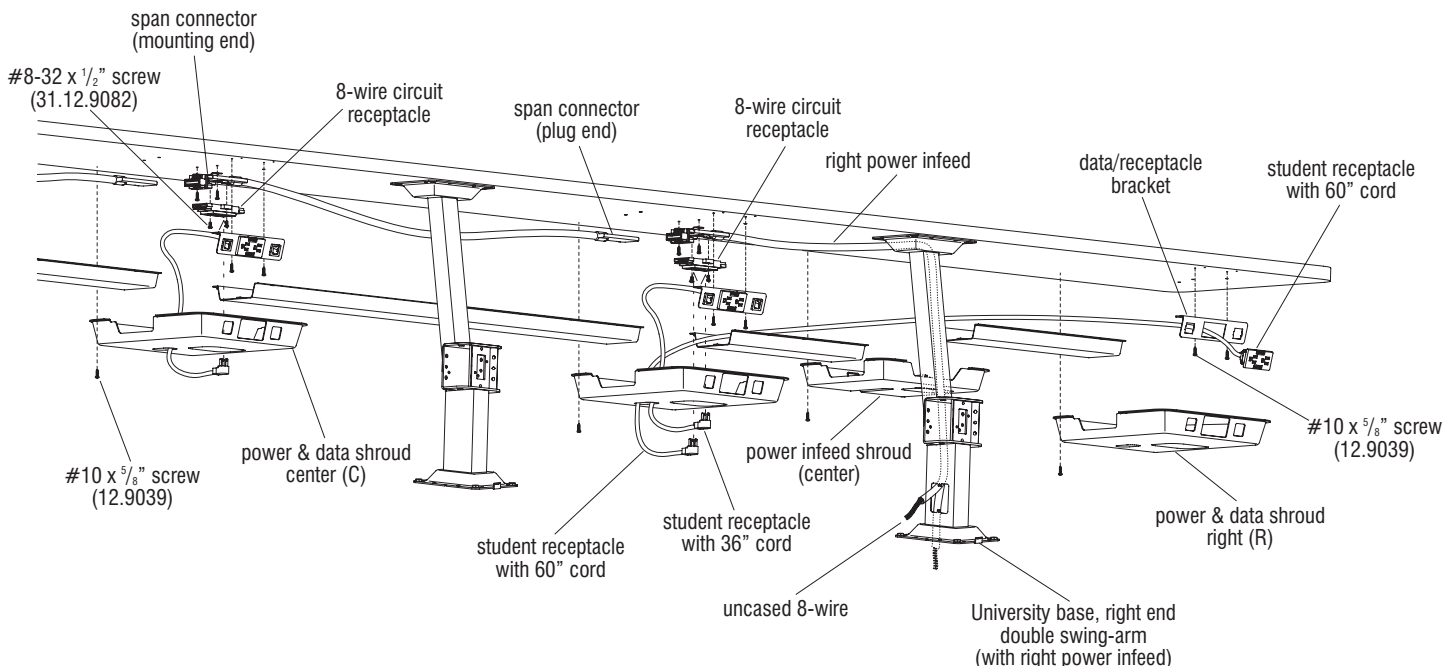

Figure 13 - Right Power Infeed with Double Swing-arm Ends (Power Infeed Detail)
34. At the underside of the University table top, locate the pre-drilled mounting holes, about midway between the two right-most University bases, near the power-infeed location (Figure 13 & Detail A). As illustrated, secure the mounting end of the right power infeed to the underside of the table top with two #10 x 5/8" screws at the appropriate pre-drilled holes. Torque screws to 25 in/lbs to secure (Figure 13, Details A & B).
space-planning layout, continue down the line installing all remaining span connector mounting ends to the table top between bases and clicking the plug ends into the appropriate mounting ends (Figures 13 & 14, Detail B).
36. Follow correct circuit designations and install 8-wire circuit receptacles to the mounting end of the power infeed and all span connectors using two #8-32 x 1/2" screws provided and torque to 20 in/lbs (Figures 13 & 14, Detail B).
38. Locate the mounting holes for the data/receptacle bracket (Details A & B). Install the data/receptacle bracket to the underside of the table top with two #10 x 5/8" screws torqued to 25 in/lbs (Figures 13 & 14).
39. Snap the appropriate style data jack adapters into the data receptacle bracket as illustrated. (See "Data Adapter Detail" on page 13 for identification of data adapter plates.) Per the space-planning layout, run data lines (customer supplied) up the appropriate base and then horizontally along the front, smaller partition of the power/data trough. Properly routed, the data lines will be separated from the line voltage flexible conduit by a divider in the power/data trough. Data line infeeds may be run up a University base in a different location than power infeed, but will use a power infeed shroud the same as in power infeed locations (Figures 13 & 14). From behind the data/receptacle bracket, snap the appropriate data lines into the data jack adapters.
Important: Data/receptacle bracket locations at the end of "double swing-arm" University table tops must use a student receptacle with a 60" long cord. At all other data/receptacle bracket locations, a student receptacle with a 36" cord is to be used. Install student receptacles by first routing the cord through the opening in the data/receptacle bracket, then snap the receptacle into place. Allow 36" long receptacle cords to hang down until a later step. Take the 60" long cords and route them through the power/data trough, toward the appropriate 8-wire circuit receptacle and allow the plug end to hang down until a later step (Figures 13 & 14).
one cut-out at the right-hand side for a power/data trough. **"Right (R) power & data shrouds"** have both cut-outs at the bottom, the cut-out facing the student, and only one cut-out at the left-hand side for a power/data trough (Figures 13 & 14).
42. Following the space-planning layout, locate the correct position for various power & data shrouds along the run of table tops. For "center" (C) shrouds, position the shroud up to the table top and allow the cord of the student receptacle(s) to drop down through the front-most cut-out as illustrated. Both the student receptacle and data jacks, as well as the bottom-facing circuit receptacle should protrude through their appropriate cut-outs in the shroud. For "left" (L) and "right" (R) shroud, only the student receptacle and data jacks will protrude through the cut-outs. Secure all power and data shrouds to the underside of table top using #10 x 5/8" screws in pre-drilled holes torqued to
25 in/lbs at the underside of the table top (Figures 13 & 14, Details B & C).
43. At "center" (C) power & data shroud locations, loop the hanging cord and insert the plug end of the student receptacle into the bottom-facing circuit receptacle. Push any excess cord back into the shroud and out of the way.
44. At the power infeed location, position the power infeed shroud (center, with cut-outs on each side for power/data troughs) up into position, making sure the troughs fit into it correctly and that the shroud back mates correctly with the base's upper mounting flange. With a pencil, mark the mounting hole locations, then use a 1/8" diameter drill bit and pre-drill to 1/2" depth, taking care to not penetrate the table top. Install power infeed shroud using #10 x 5/8" screws provided torqued to 25 in/lbs (Figures 13 & 14).